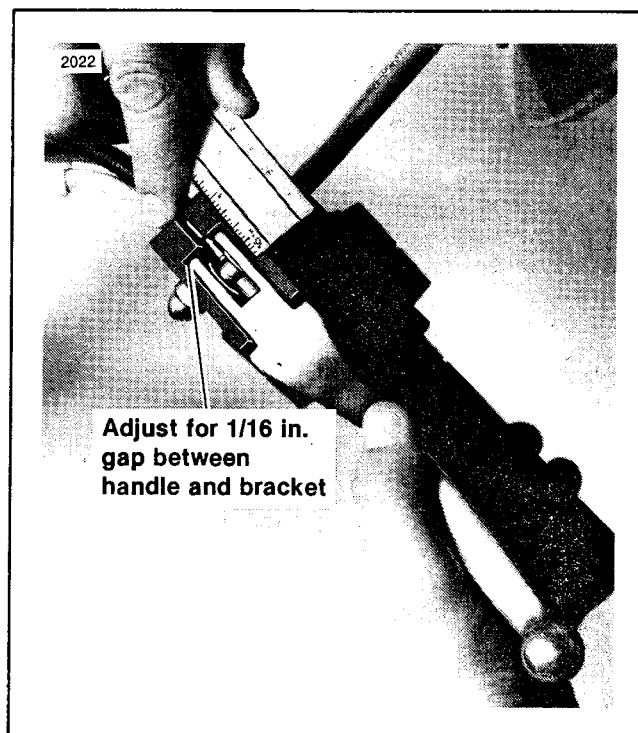

Figure 1. Adjusting Clutch Free Play
2. Reattach clutch cable to release arm and adjust clutch cable so 1/16 in. gap exists between clutch hand lever and bracket as shown in Figure 1 below.
4. Reattach clutch cable to release arm and adjust clutch cable to dimension shown in Figure 1. Refer to Figure 6 in Service Bulletin M-878.